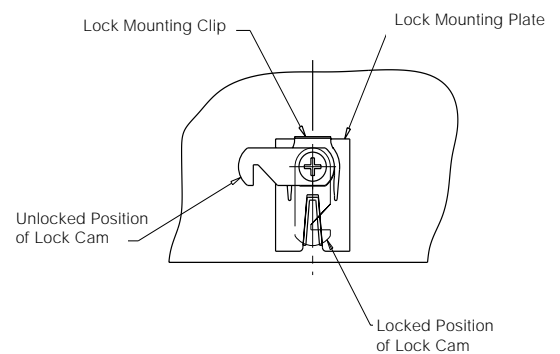

Figure 3
3. Install lock into lock hole with lock cam in unlocked position as shown in Figure 3.
4. Install lock mounting plate over the lock at the inside top of the door so that the plate rests flush with the inside surface of the door (see Figure 3).
5. Secure lock into place by sliding lock mounting clip into slots in side of lock body, at the inside of the lock mounting plate material (see Figure 3).